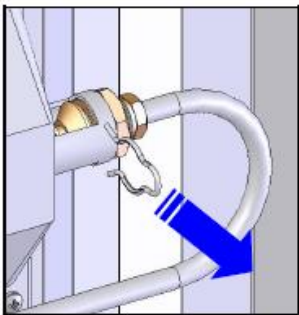

Figure 3
- Pull and Remove Bushing Pin (Figure 3).